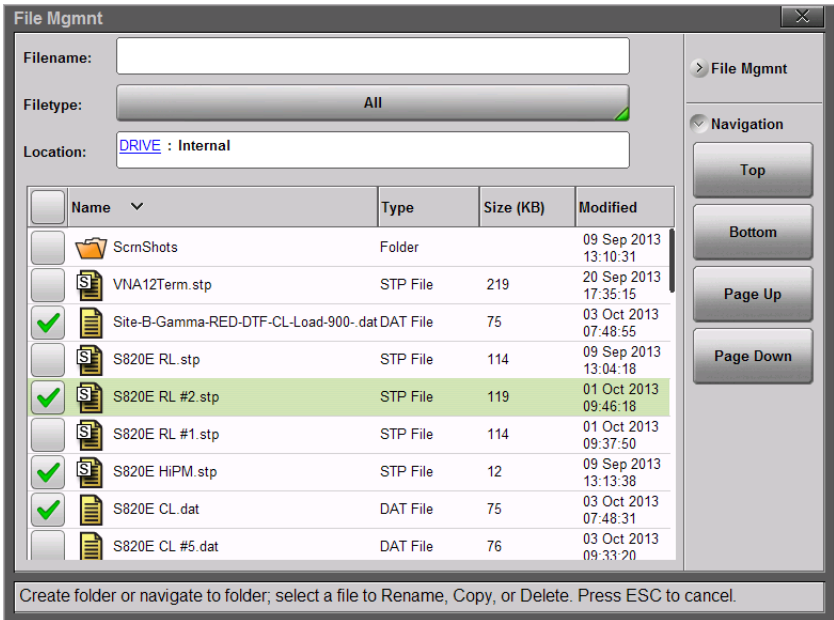

Figure 10-19. Selecting Multiple Items to Copy
2. Select the files and folders to copy. Use the check box column to select multiple files and/or multiple folders (Figure 10-19). Use the Navigation submenu buttons as needed to move through a long list of files.